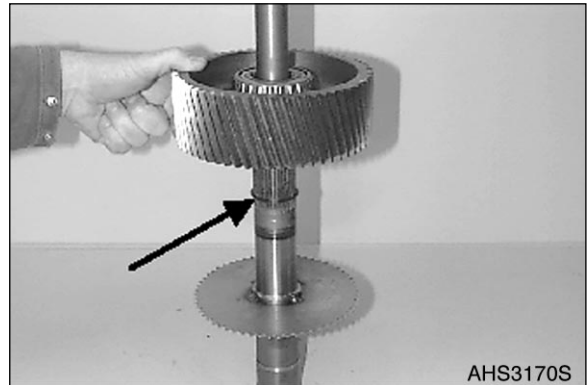

Figure 369
6. Squeeze circlip in (Figure 369) and line up the drive gear.